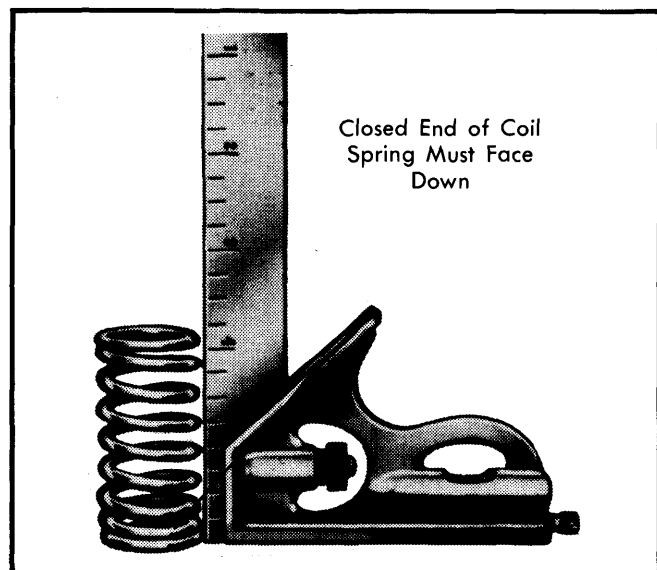

Fig. 3 Checking Valve Spring Squareness
2) Check each valve spring for squareness using a steel square as shown in Fig. 3. If spring is out of square more than .60", replace spring.